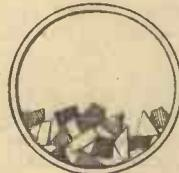

Fig. 112.—The container.
The stage may be 1/2 in. thick, and should have a hole of the same diameter as the tube. Two small brass screws should be fixed as shown, and should stand up high enough to permit the container (shown in Fig. 112) to pass under their heads.
**The Container.**—This consists of a disc of clear glass, as shown in Fig. 112, to which is attached a rim of cardboard, and is easily rotated with the finger until an attractive design appears.